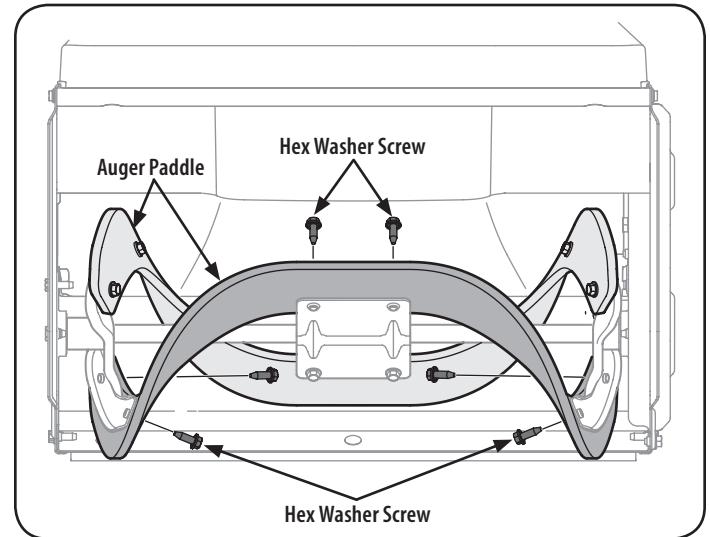

Figure 6
To change the rubber paddles, proceed as follows and refer to Figure 6:
3. Remove the existing rubber paddles by unthreading the hex washer screws which secure them to the auger. See Figure 6.